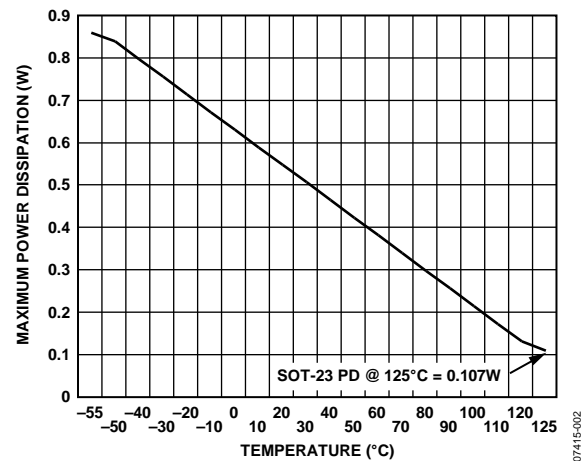

Figure 2. SOT-23 Maximum Power Dissipation vs. Temperature
1 Values relate to package being used on a standard 2-layer PCB, which gives a worst-case θJA. Refer to Figure 2 for a plot of maximum power dissipation vs. ambient temperature (TA).